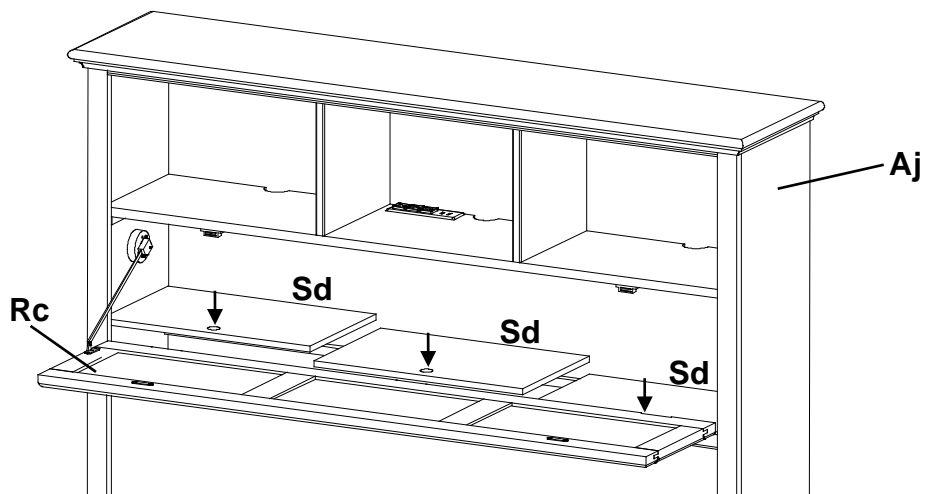

Fig. 15
15. Unwrap the False Bottoms (Sd) and place them on top of the rails in the Headboard Assembly (Aj). Make sure the finger holes face forward as shown in Figure 15. After you have placed your electronics inside the cubbies, use the Wire Clips (ZS) on the underside of the cubbies to secure the wires. Close the door tightly making sure the magnetic catches and plates securely touch.